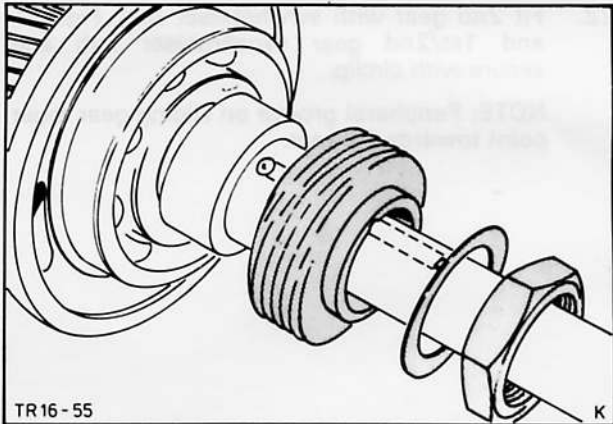

Fig. 85. Fit spacer sleeve with speedometer worm gear
27. Fit spacer sleeve, insert interlock ball and slide on speedometer worm gear, Fig. 85.